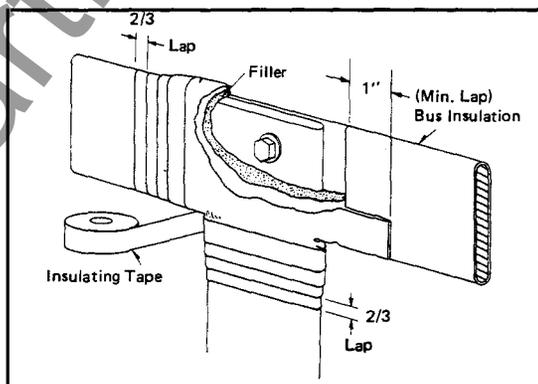

Fig. 7 Field Taping of Electrical Connections
3.6 Field Taping of Electrical Connections (See Fig. 7)